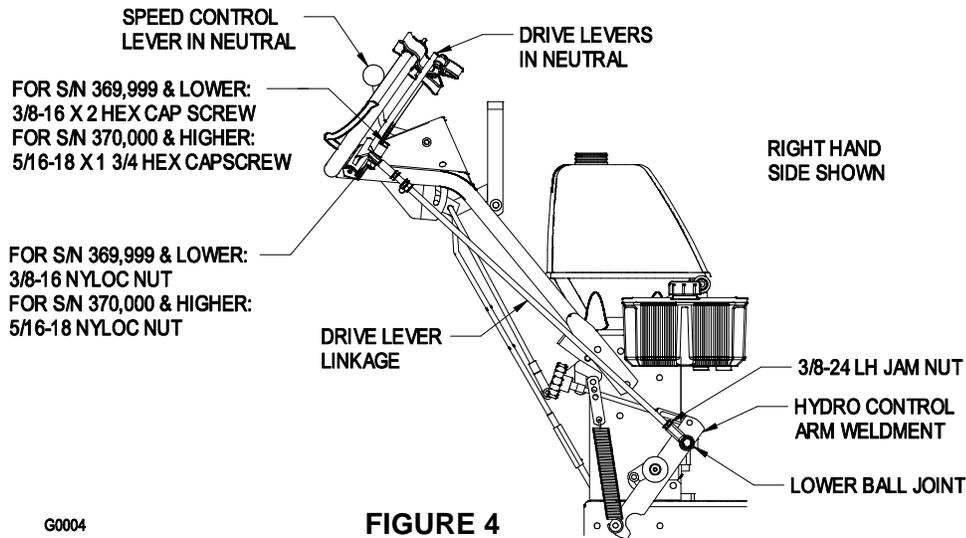

FIGURE 4
- 3.13 Install drive lever linkages. Refer to figure 4. Position speed control lever in neutral. Position drive levers in neutral and engage the neutral lock latches (See Figure 5 (b)). Drive lever linkages are shipped with upper ball joints installed. Thread a 3/8-24 LH jam nut, from the bolt bag, onto the lower end of each drive lever linkage. Identify the lower ball joints installed on hydro control arm weldments. Thread lower end of each drive lever linkage into the lower ball joint until hole in upper ball joint aligns with hole in drive lever. Install 5/16-18 x 1 3/4 hex cap screws and 5/16-18 nyloc nuts from the bolt bag and tighten.